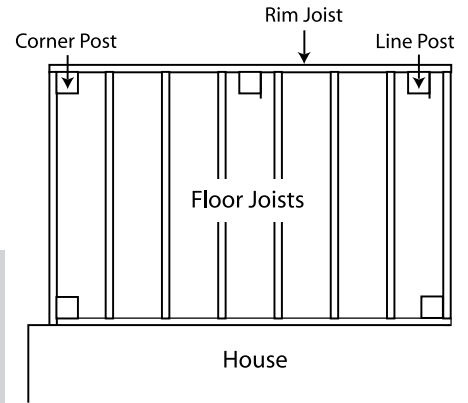

Figure 1
fiberon® Guardrail systems should only be secured to code compliant posts. Securing a guardrail to another structure (i.e. building) is not recommended (Fig. 1).
Use Joist Mount Brackets on projects where framing is fully exposed (Fig. 1). In new construction, Joist Mount Brackets are attached to the inside of the framing before the porch flooring or decking is installed. Joist Mount Brackets may be used to install railing on existing decks provided the framing underneath is exposed to permit proper installation. Joist Mount Brackets can be used in a corner or line application and bolts directly to the framing with four galvanized carriage bolts. Follow these guidelines to complete the post installation:
1. Determine position of the posts on the framing (Fig. 1).